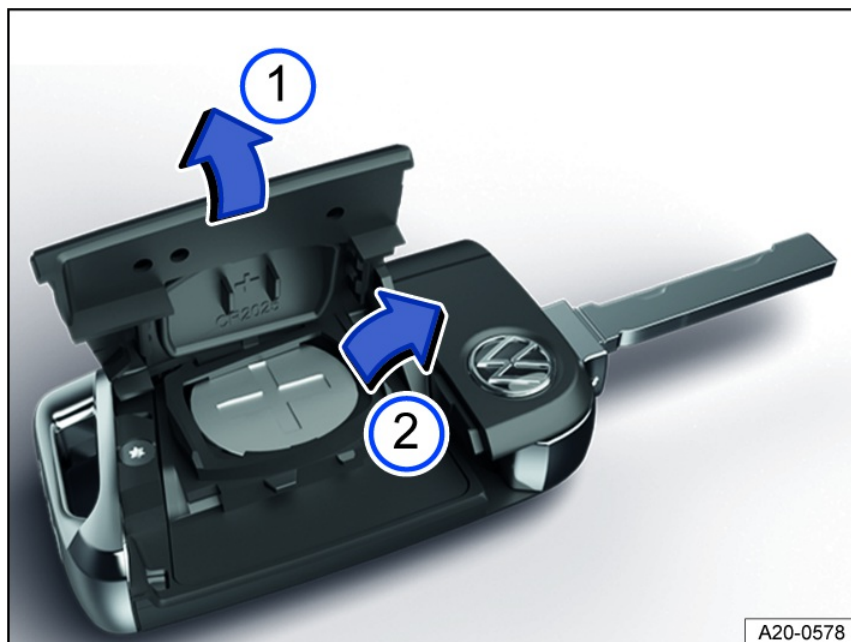

Fig. 48 Vehicle key: Replacing the button cell battery (general example).
- ① Cover
- ② Button cell battery
2. Lever off the cover fig. 48 ① ⇒ !.
3. Lift the button cell battery out of the battery compartment fig. 48 ②.
5. Press the cover onto the housing *fig. 48* ①.